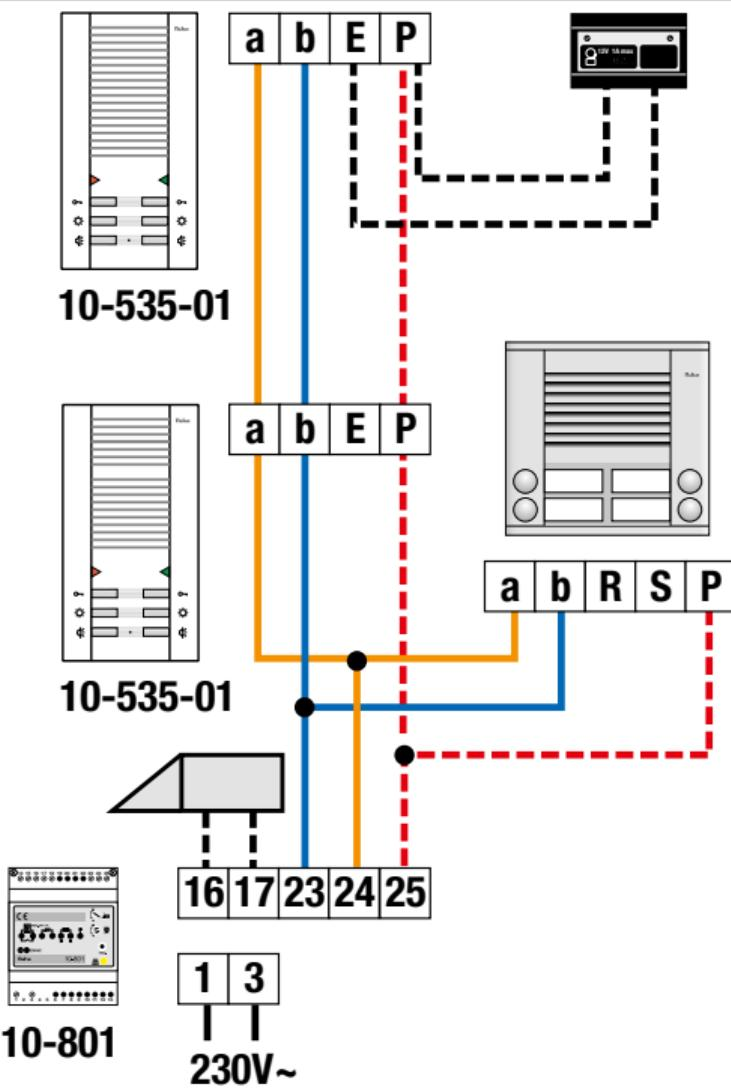
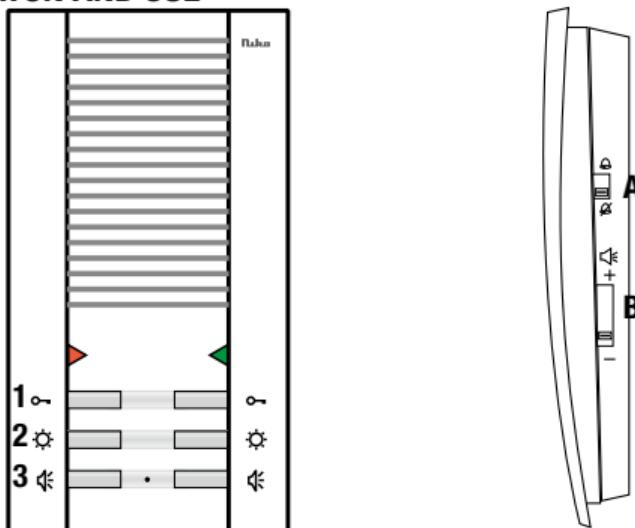

fig. 3: complete wiring diagram
fig.4: front view and side view of the internal unit
- Briefly press function key 3 to activate the door unit without the bell being rung. The door loudspeaker at the internal unit is activated and the green LED lights. The connection is wound up by briefly pressing function key 3 or after 60s of activity.
- Press the door open key (function key 1) to open the lock (fig.4). On the power supply, you can set the activation time of the lock between 0,8s and 8s (see user manual power supply).
- Press the light switch key (function key 2) to control the light switch relay on the power supply.
- If there is a call, the telephone rings once at the set tone (see 'Possible settings') and the green LED on the internal unit lights. Briefly press function key 3 to communicate with your visitor. If the visitor is hardly understandable due to background noises, just keep function key 3 pressed while you are speaking. Let go of the function key to let your visitor speak. The conversation is wound up by briefly pressing function key 3, automatically after 60s or 4s after opening the door. The green LED goes out if the conversation is wound up.
Switch selector switch A (fig.4) at the side of the internal unit to OFF  to switch off the ring tone on the internal unit. The red LED lights continuously in confirmation.
You can modify the volume of the ring tone at the internal unit by means of slide switch B at the side of the internal unit (fig.4).
You can connect a floor bell push button (a push button with N.O. contact e.g. 05-540) to the internal unit. Use terminals E and P of the screw connector (fig.3). Switch selector switch A to OFF and immediately back to ON to modify the ring tone on the internal unit. Briefly press function key 3. The red and green LED light. Then press function key 2 (fig.4) to hear the first ring tone. With each press on this function key, you hear the next ring tone in row. To select the desired ring tone, simply wait for both LEDs to go out ($\pm 8s$.). The last heard ring tone is then set.